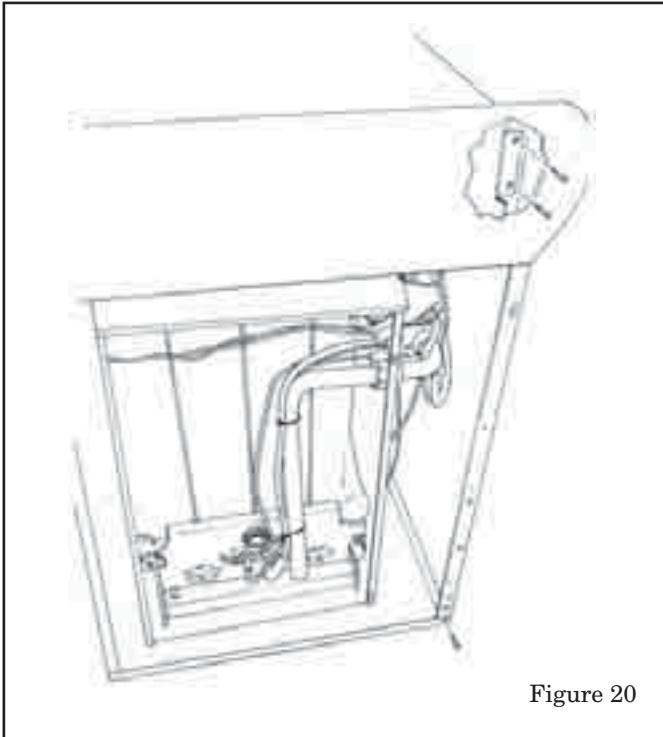

Figure 20
5. Remove the right side panel by removing three screws on the front and four screws on the back of the right side panel. See Figure 20.